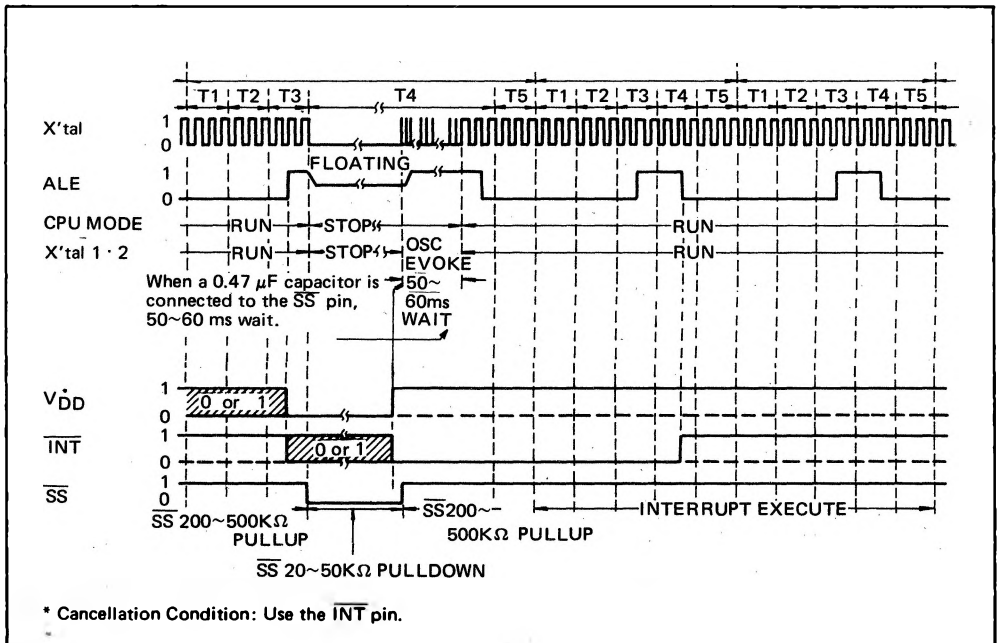
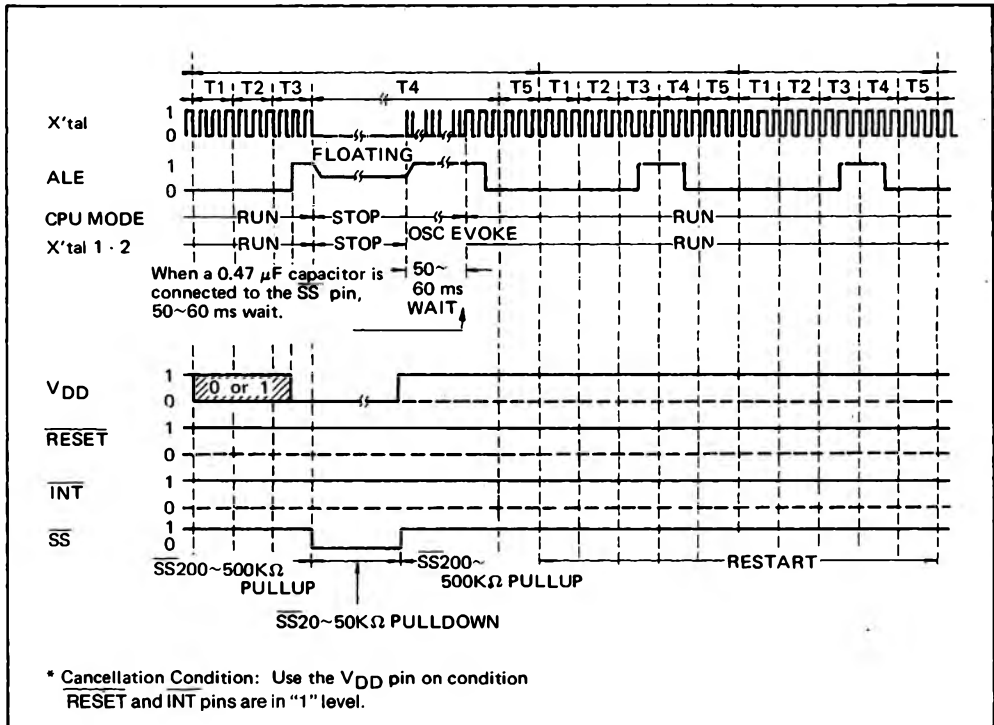

Fig. 4-6 Hardware Power-Down Mode Timing Chart
Fig. 4-7 Hardware Power-Down Mode Timing Chart
However, if the power-down mode is started during an interrupt processing routine, execution will be continued on the next instruction after the present instruction. The timing chart is outlined in Fig. 4-6.
- (3) Use of the INT pin during external interrupt disabled mode (i.e. following execution of DISI instruction or hardware reset)
- The clock generator is activated and the CPU started up when a "1" level is applied to the  $V_{DD}$  pin while a "0" level is applied to the INT pin. If this "0" level is maintained until at least 2 ALE output signals occur, execution is continued on the next instruction after the present instruction. The timing chart is outlined in Fig. 4-6.
- (4) Use of  $V_{DD}$  pin only
- The clock generator is activated and the CPU started up when a "1" level is applied to the  $V_{DD}$  pin while a "1" level is also applied to both the RESET and INT pins. In this case, execution is resumed from the stopped position. The timing chart is outlined in Fig. 4-7.